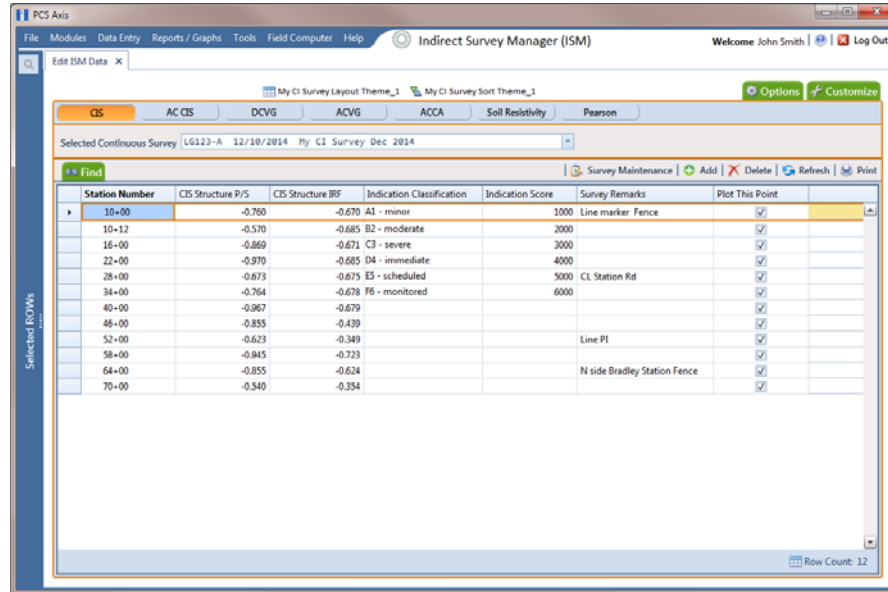

Figure 7-74. Edit ISM Data
- 3 Click **Data Entry > Edit ISM Data** to open the ISM data entry grid. Then click the **CIS** button  to work with a close interval survey (Figure 7-74, page 287).